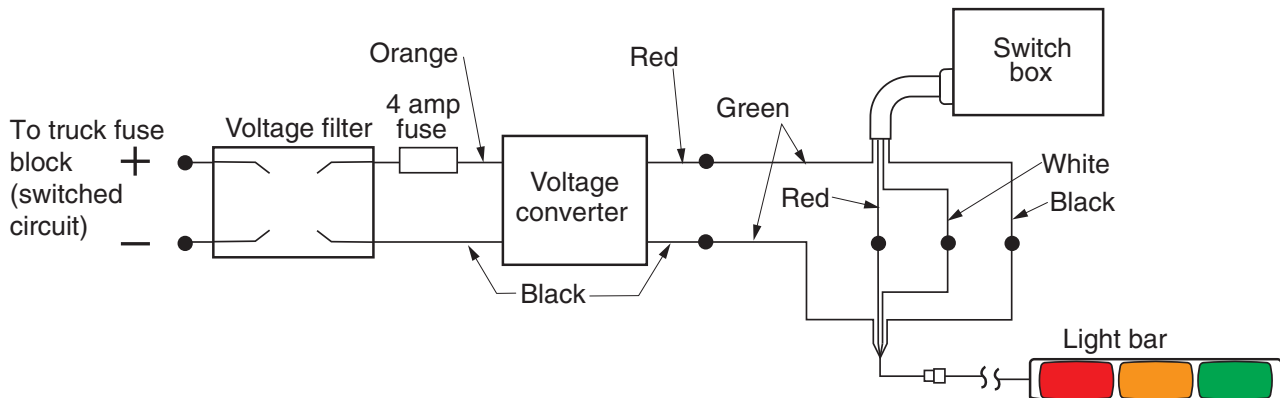

Figure 4, Electrical schematics
7. Connect the cables together using the schematics in Figure 4, shown below. The green wires are connected to the power supply wiring.